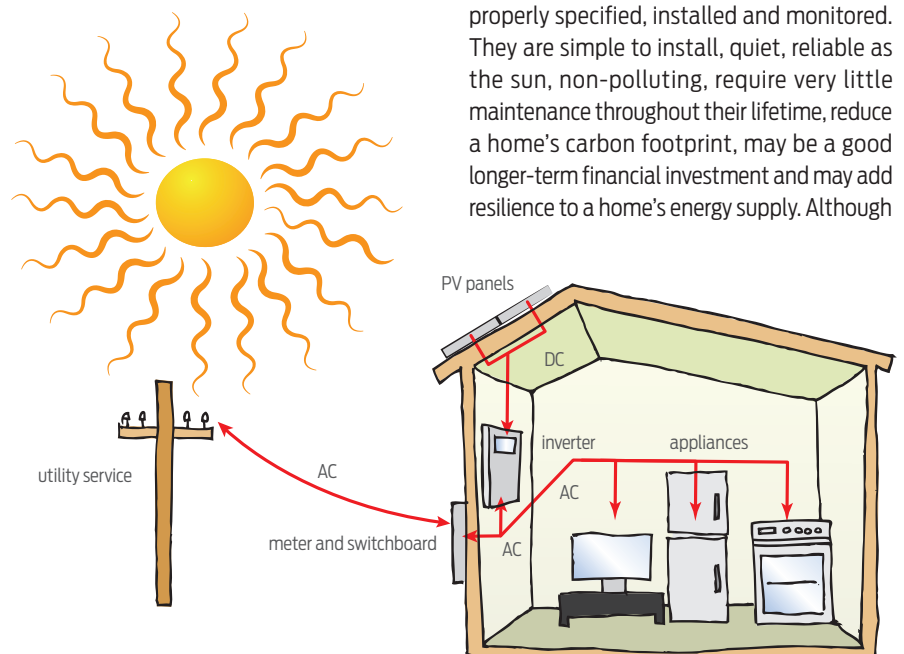

Figure 1. Schematic of typical grid-tied system showing key components and energy flows (red lines).
A photovoltaic array is made up of light-sensitive panels that contain solar cells (see Figure 1). The cells consist of layers of a semiconductor material – typically silicon. Sunlight striking the cells causes electrons to move between the semiconductor layers, generating direct current (DC) electricity. This DC electricity needs to be transformed into alternating current (AC) electricity for ordinary household needs. This transformation process is carried out by an inverter. From the inverter, electricity is fed into the household switchboard, where it is distributed directly to the outlets/appliances that need it immediately.